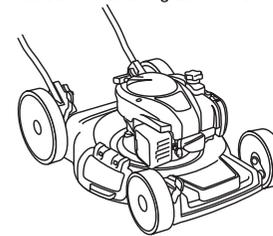

Fig. 10
2. Close the mulching door. The mower is now ready for mulching. (Fig. 10)